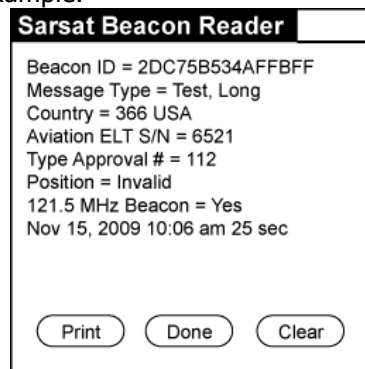

Figure 11 Long 406 MHz Message Example
- 4) Deactivate the ELT and read the test message broadcast at "turn-off". A message example is shown in Figure 11 Long 406 MHz Message Example.
- b) The Figure 11 Long 406 MHz Message Example is an ELT programmed for "Standard Location Protocol ELT with 24-Bit Address". Actual messages will vary depending on the protocol and information programmed into the ELT.
- c) When the ELT is disconnected from the aircraft navigation system, or the navigation system is not active, the message will indicate "Position Invalid" in lieu of position data, as shown in Figure 11 Long 406 MHz Message Example.